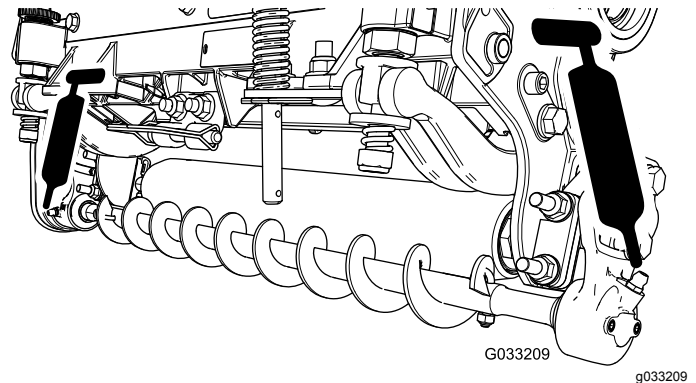

Figure 16
5. Lubricate the grease fittings on each of the roller brush bearing housings with No. 2 lithium grease (Figure 16).